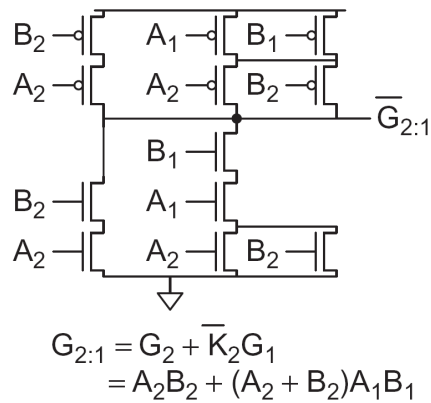

Figure 1: The 2-input generate gate from Weste & Harris figure 11.36 (a).
- c) Calculate the logical effort,  $g$ , for all inputs of the  $G_{2:1}$  gate in Figure 1 above and the parasitic delay,  $p$ , for the gate. Use the same assumptions as in task b). (4 p)